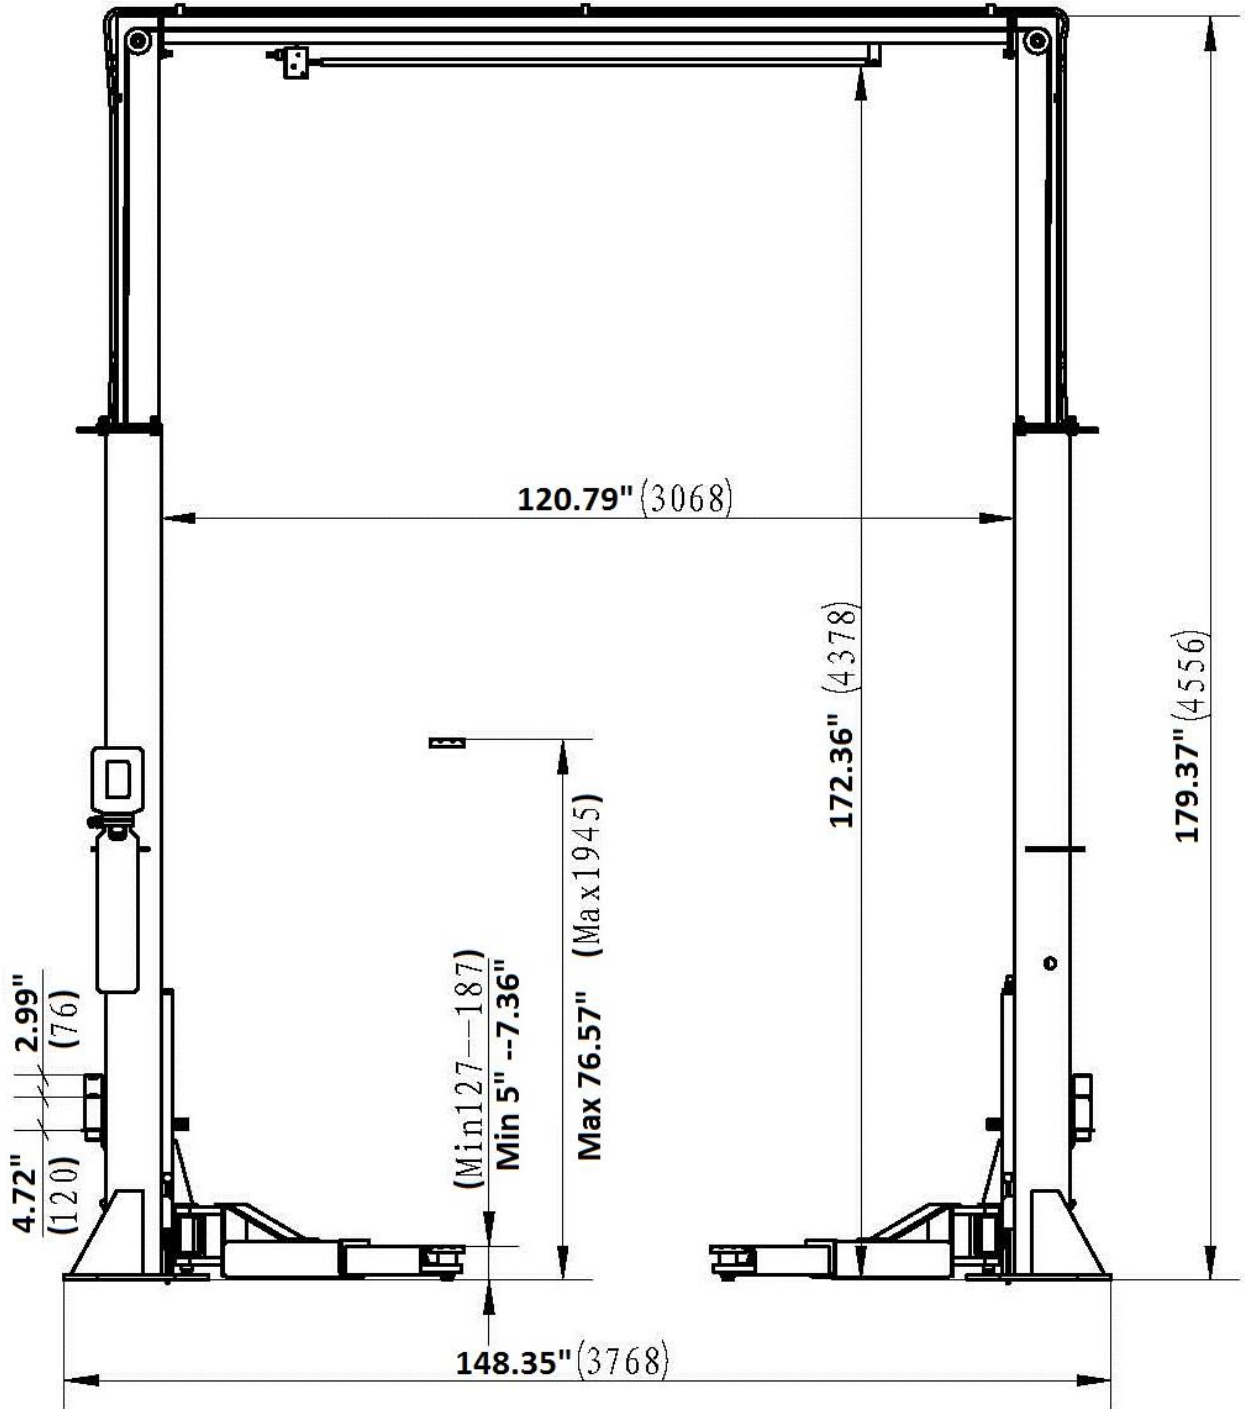
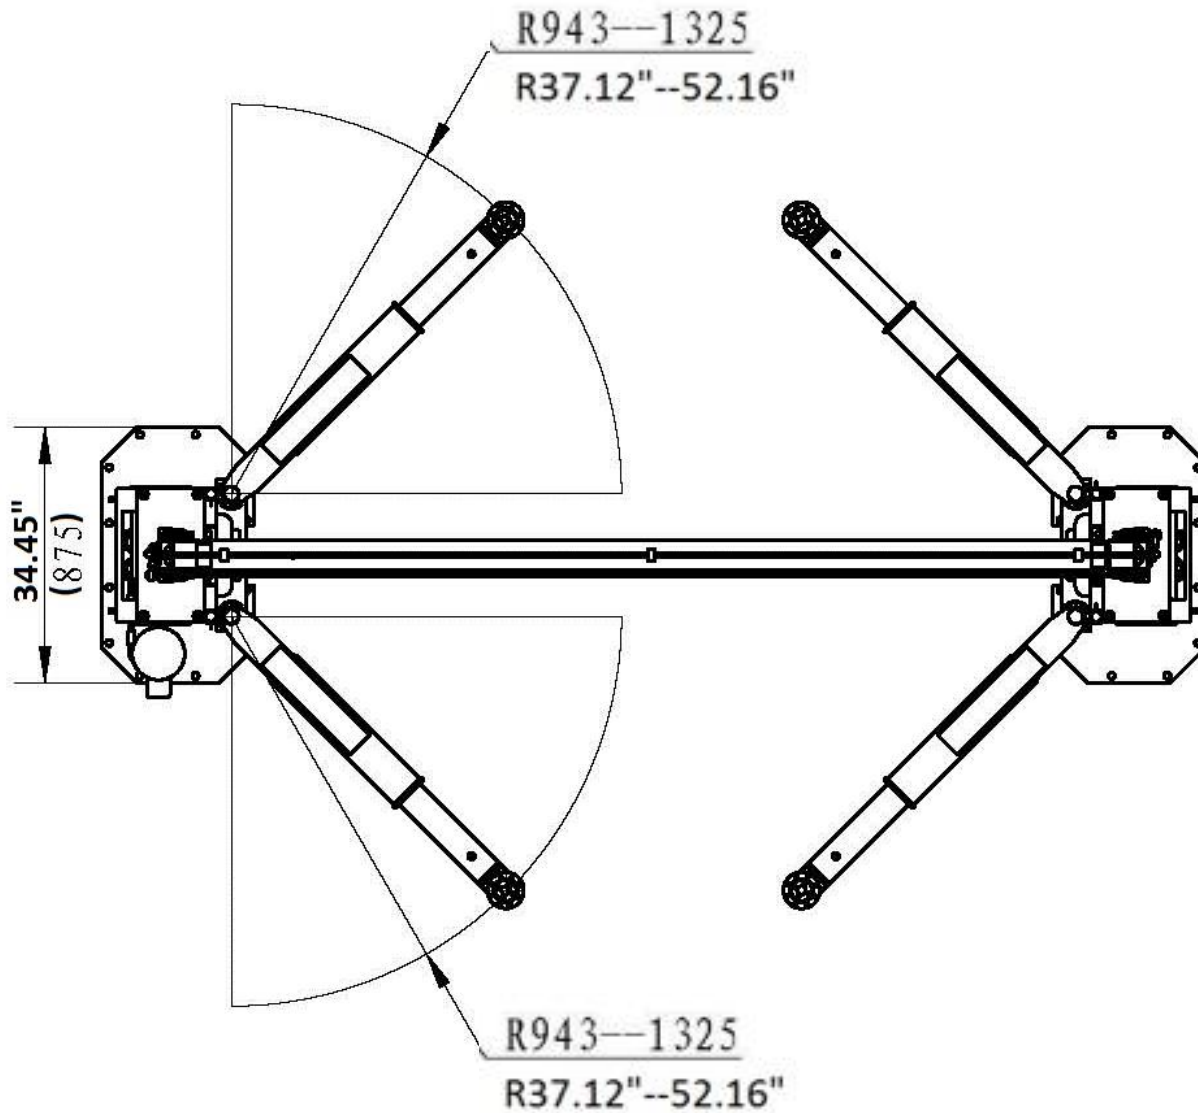

Fig. 2
Fig. 3
1. **LIFT LOCATION:** Always use architects plans when available. Check layout dimension against floor plan requirements making sure that adequate space is available (**Fig. 2 & Fig. 3**).
- 1 **OVERHEAD OBSTRUCTIONS:** The area where the lift located should be free of overhead obstructions such as heaters, building supports, electrical lines etc. **(Figs 2 & 3.)**